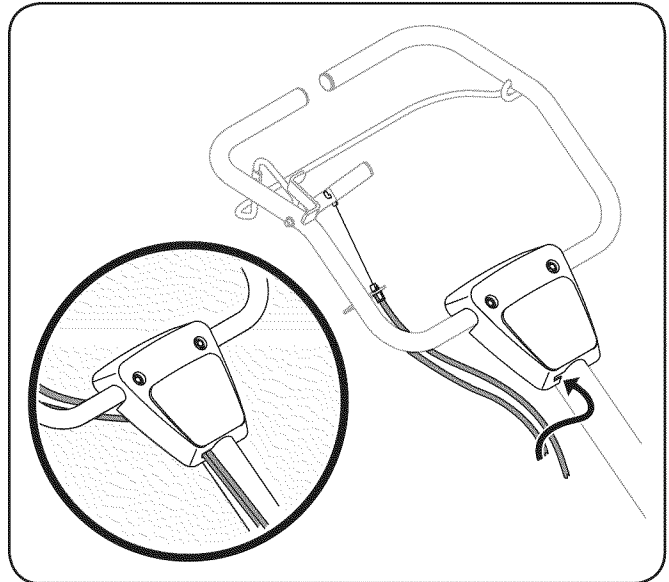

Figure 3-4
- Clip the cables into the cable guides located on the handle assembly panel as seen in Fig. 3-4.